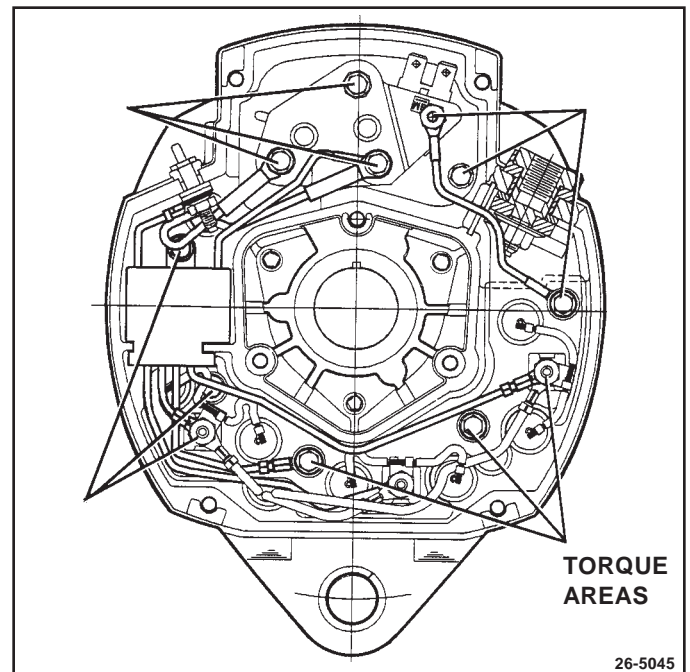

Figure 44. Fastener Torques
27. Check all connections and fasteners in the electrical compartment for tightness. Fig. 44 shows location of fasteners with torques referenced in this bulletin. Check wires to be sure they are not routed against sharp edges.
28. Edges of end cover gasket (47) must be free of cracks or other deterioration to assure sealing of the electronics compartment, both around the outside and around the